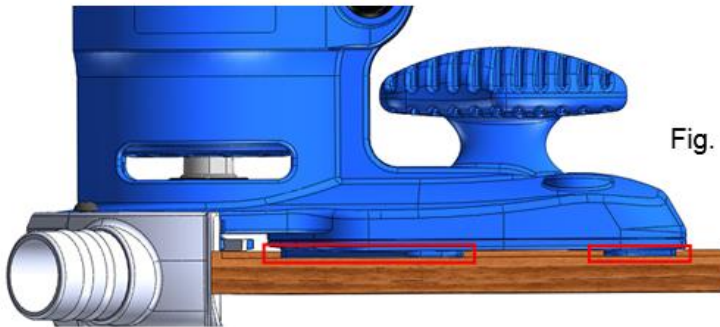
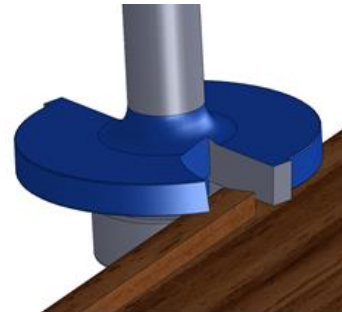

Fig. 14
Fig. 15
- Placing the trimmer bottom housing on door as red highlighted area. (Fig. 14) Adjust the trimmer to proper location and 5° router bit align the door edge then start the edge trimming. (Fig. 15)